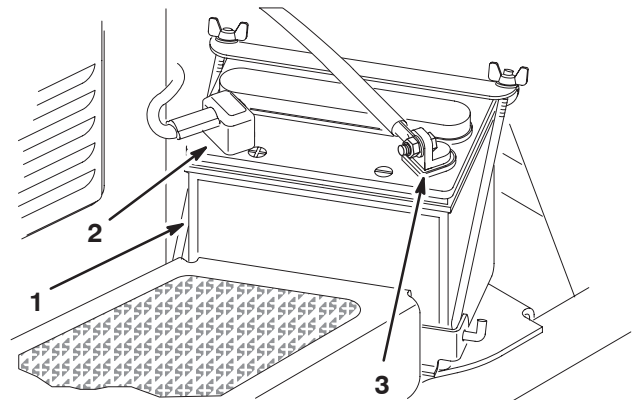

Figure 2
1. Set the battery in place, with the negative (–) terminal to the outside (Fig. 2).
3. Secure the negative cable (black) to the negative (-) terminal of the battery with a capscrew and locknut (Fig. 2).